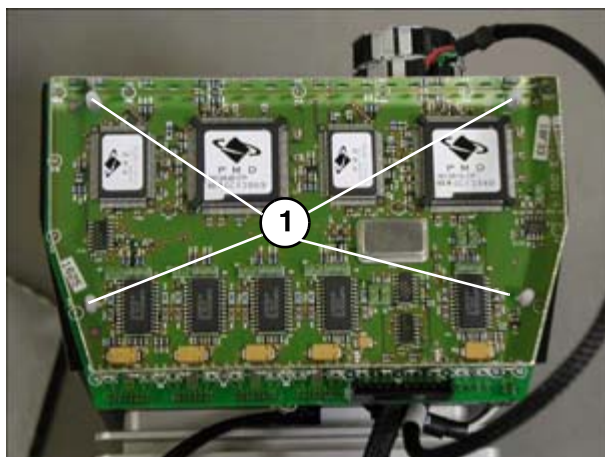

Fig. 22: D814
- Loosen board D814 from the 4 plastic holders (1/ Fig. 22 / p. 45).
- Plug D814 into the 4 plastic holders (1/Fig. 22 / p. 45).